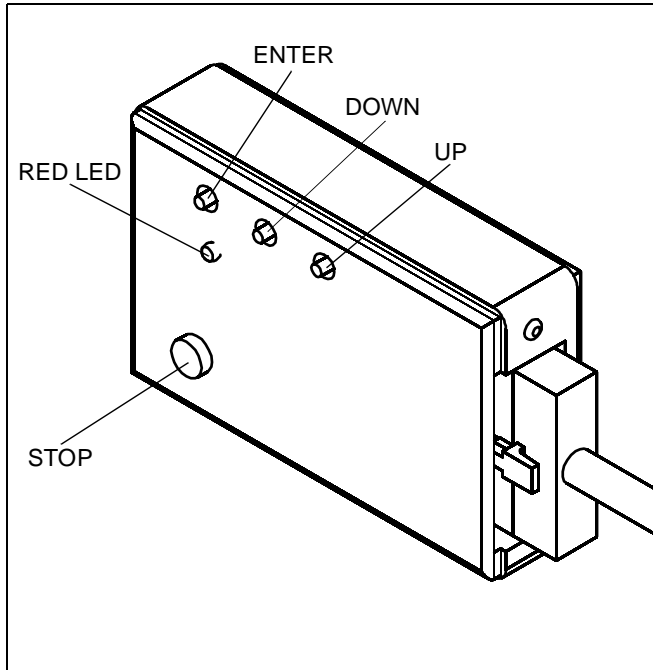

Figure 14
NOTE: The LED will be dark when power is first turned ON. (See Figure 14)
3. On the control box, press and hold ENTER button for a few seconds and then release. [The LED will be blinking.] (See Figure 14)